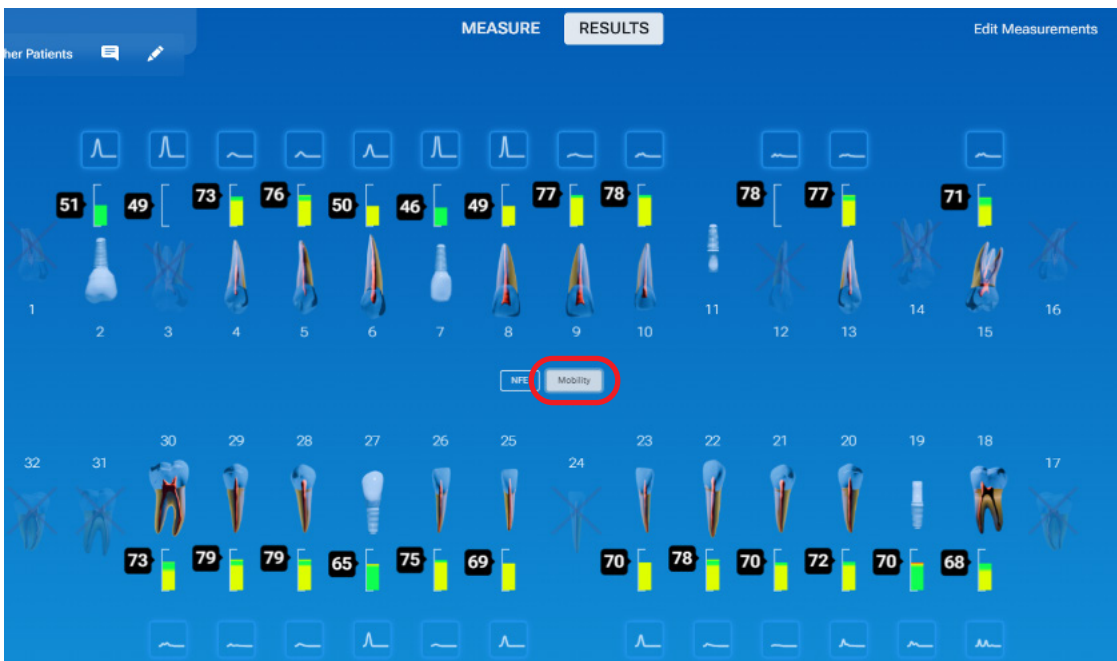

Figure 27: "Results" screen with Mobility measurements
b. When the "**Mobility**" tab in the center of the screen is selected, the system will display the tooth/implant Mobility data. (Figure 27).